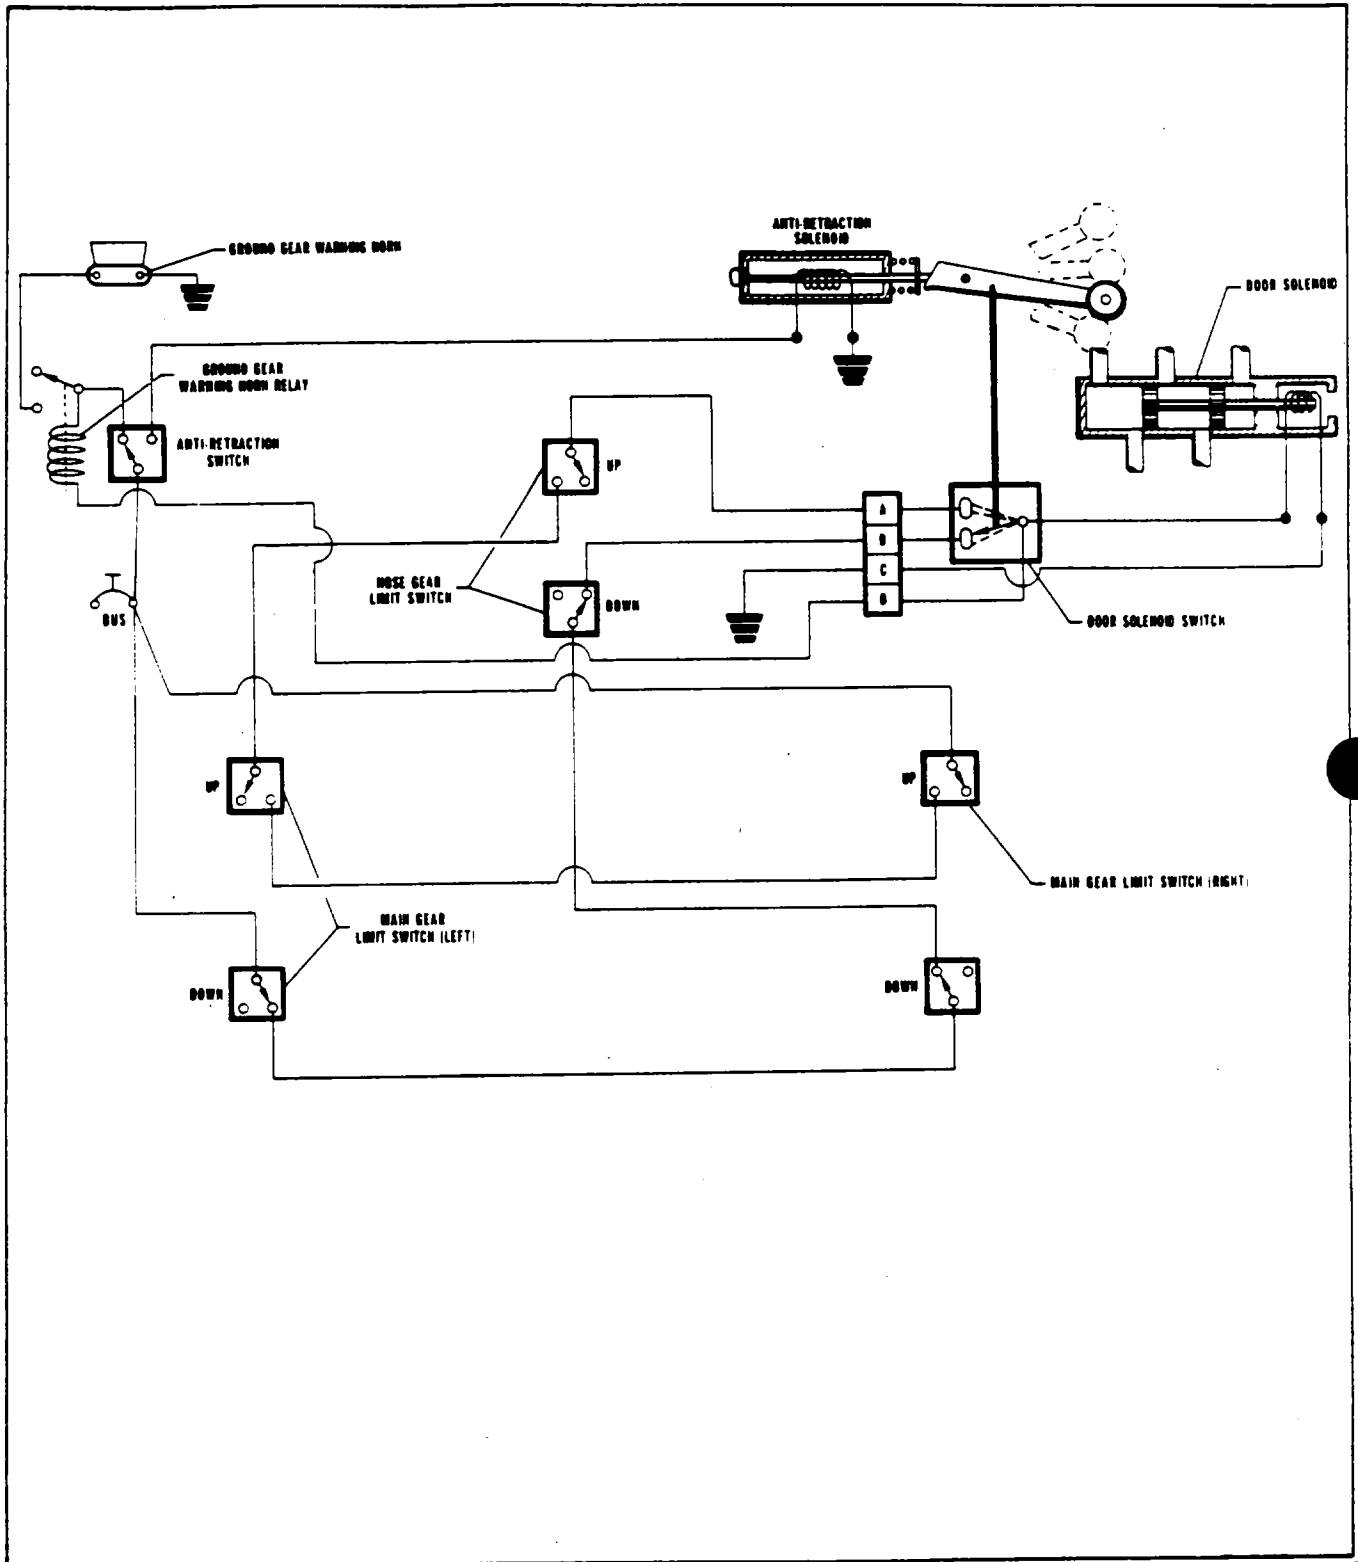

Figure 29-2. Schematic of Power Pack Electrical System
2. REFER TO FIGURE 29-2 FOR SCHEMATIC OF POWER PACK ELECTRICAL SYSTEM.